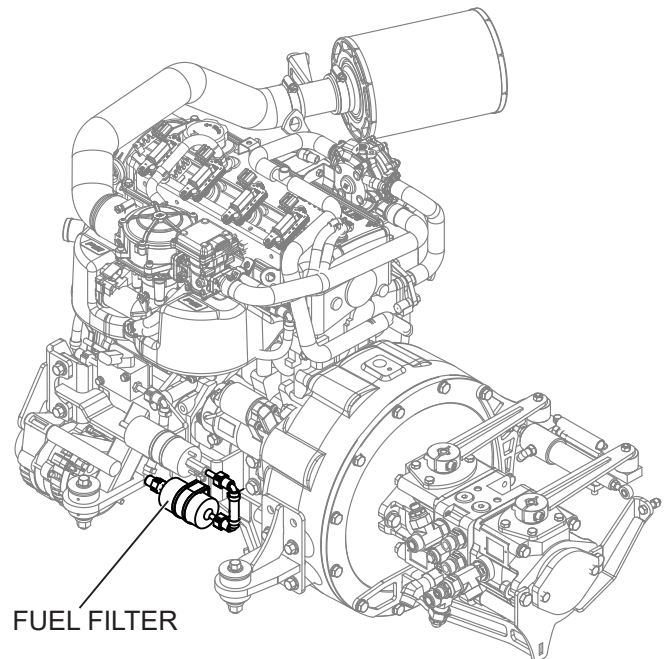

Figure 39. Fuel Filter
1. Replace the engine fuel filter element (Figure 39) every 400 hours.